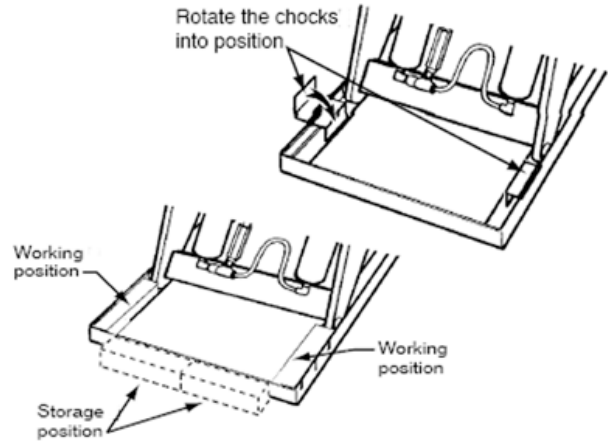

Figure 1 – Safe Servicing of Lift
3. Remove the maintenance device(s) from its/their storage location and place it/them into the engaged position as shown in Figure 1. (Note: further information may be useful here to provide additional instructions as to the location and method of storage and engaged positions).
When adjusting the flow control, always raise the lift and insert the maintenance chocks, as shown in Figure 1. Do not try to adjust the flow control while pressing the “down” button. If you try this, the lift may drop suddenly, and you may be hurt.
- **Raise the lift and insert the maintenance chocks**, as shown in Figure 1.
- Every time you want to change the adjustment again, raise the table again and insert the maintenance chocks as shown in Figure 1.